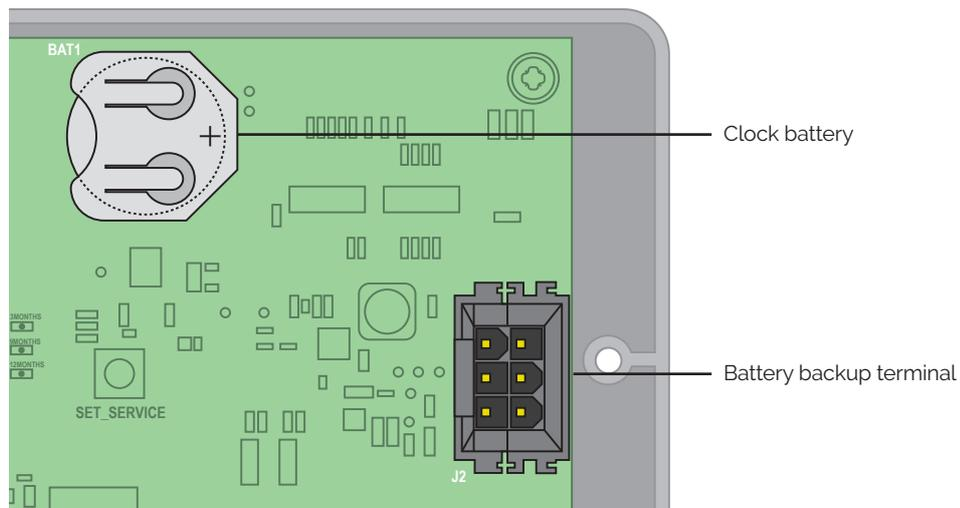

Figure 17. Internal batteries.
5. Connect the internal battery to the PCB's battery backup terminal (see Figure 17).